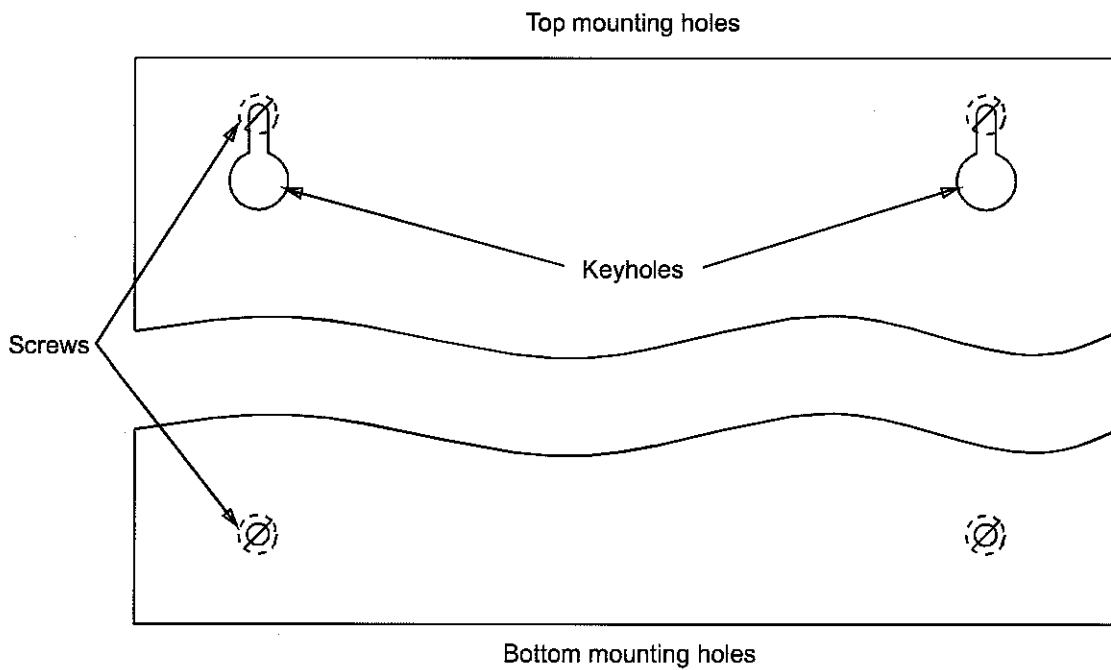

Figure 2—Mounting Holes
2. Mark location of top mounting screws (Figure 2).